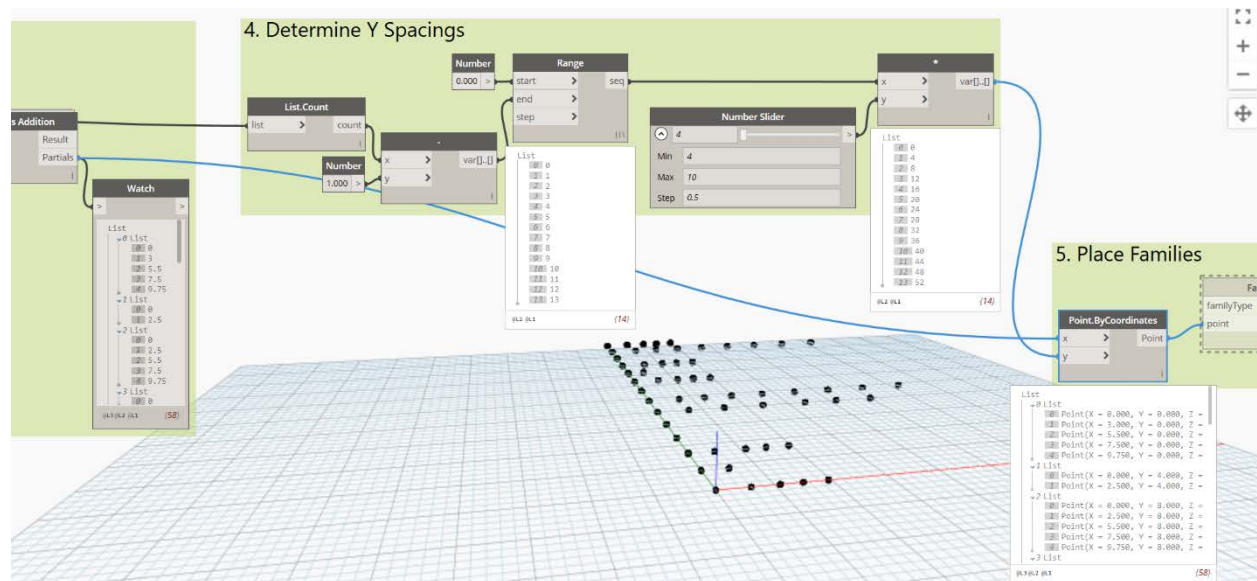

Figure 55
48. Run the graph (see Figure 55).